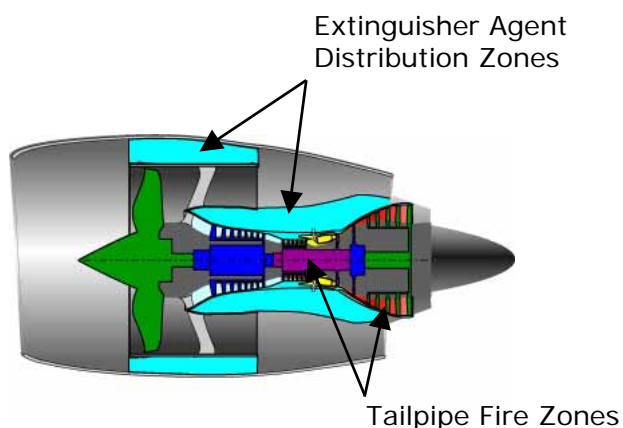

Figure 5
- The fire agents will be discharged outside of the engine core, in a part of the engine that is not affected by the tailpipe fire (**Figure 5**). Discharging the fire agents will have no negative impact on the engine, but may lead to delays or cancellation, if no fire extinguisher bottle spare is available.